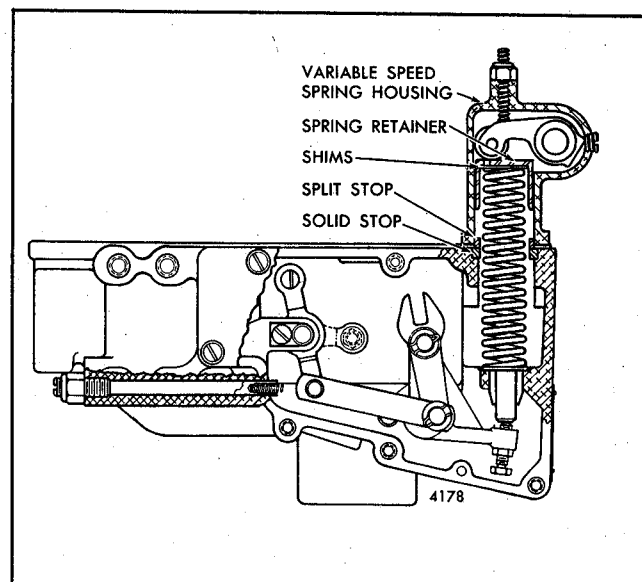

Fig. 25 - Location of Shims and Stops
3. Refer to the table below and determine the stops or shims required for the desired full-load speed. A split stop can only be used with a solid stop (Fig. 25).